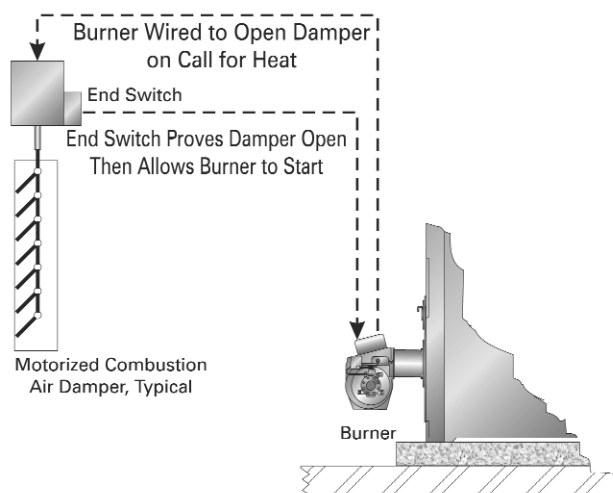

Figure 1.2: Motorized Vent Damper Interlock
- If motorized dampers are used on the combustion and ventilation air openings they must include an interlock device that prevents the boiler from operating if they do not open. See Figure 1.2 for this configuration.